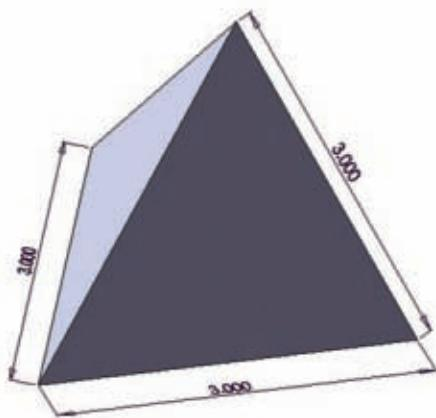

Figure 6-22 Three-sided pyramid.
12. Practice constructing a few perplexing solid models. (see Figs. 6-22 through 6-26)
a) Three-sided pyramid (see Fig. 6-22)